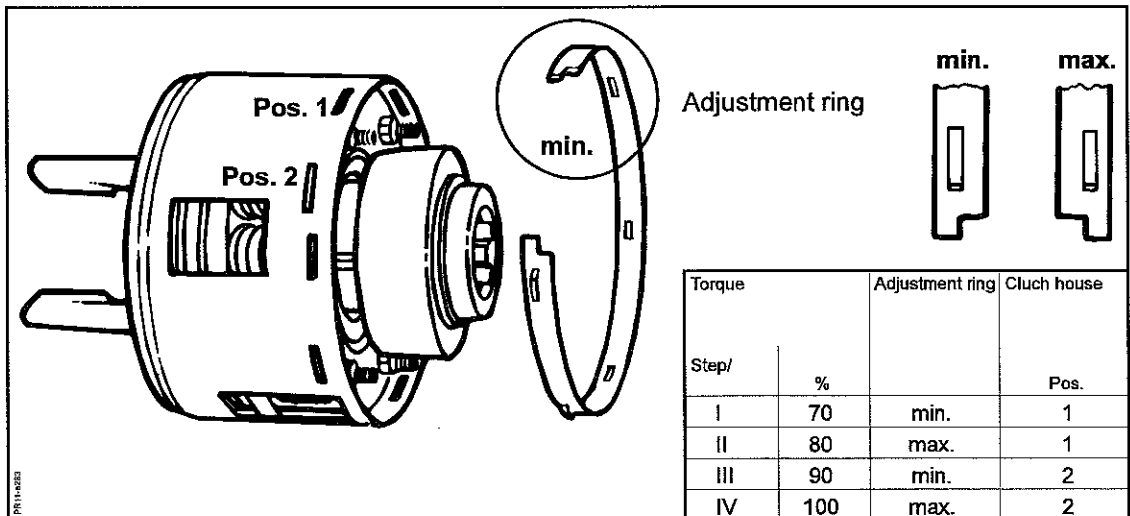

Fig.40
**Fig. 40** The torque setting of the friction clutches can be adjusted in four steps by turning the adjustment ring and by two different positions in the coupling house.